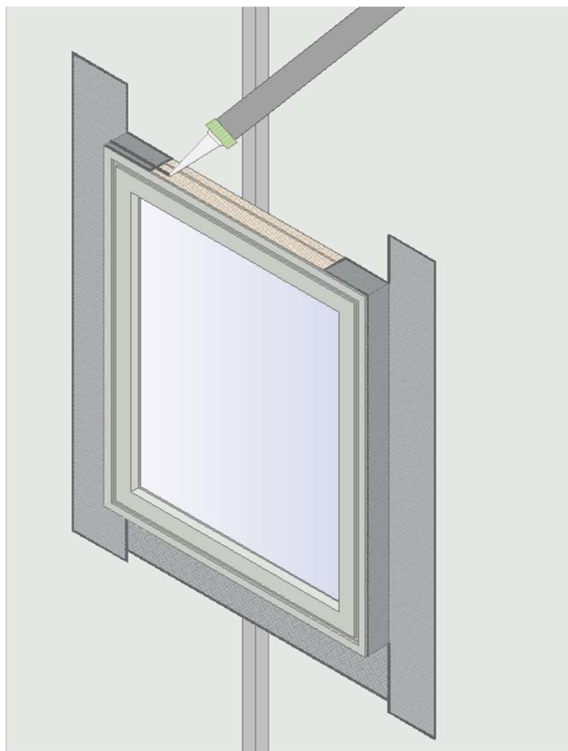

Figure 13
- Apply a 10 mm diameter bead of adhesive on to the frame (Figure 13).